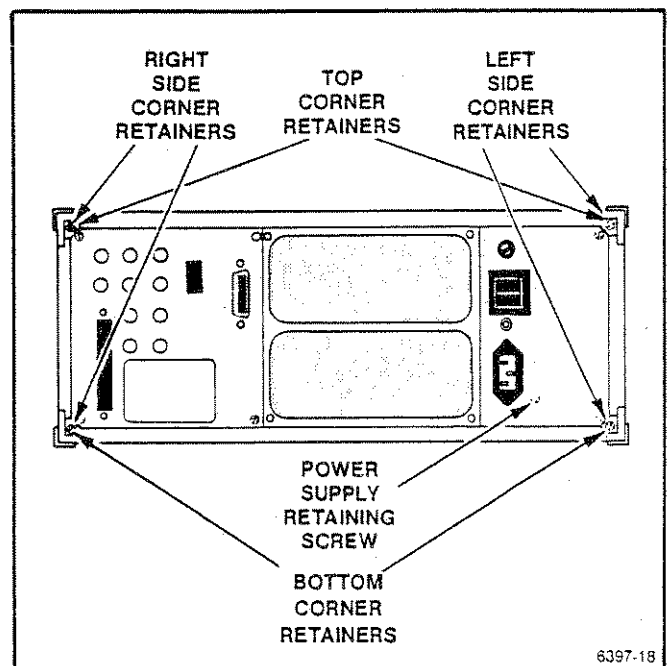

Fig. 3-3 Cabinet cover removal
1. Remove the rear corner retain attaching screws and corner retainers that are associated with the cabinet cover to be removed (Figure 3-3).
2. Remove the attaching screws for the two rear corner retainers associated with the right side cabinet cover (Figure 3-3).